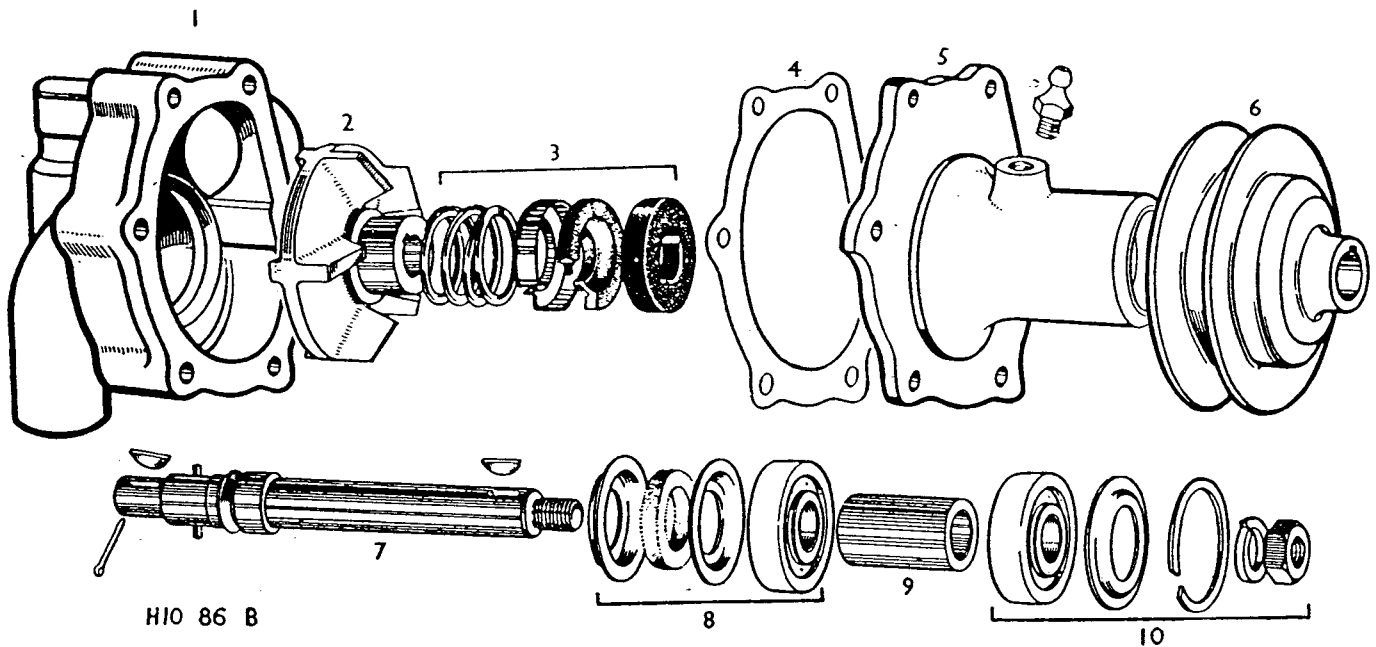

Fig. 4. Order of Assembly for Water Pump.
### To Dismantle. (Fig. 4).
1. In re-assembling, it is essential that the bearings, distance piece, and the various washers and other parts be positioned correctly. Fig. 4 shows the correct order.